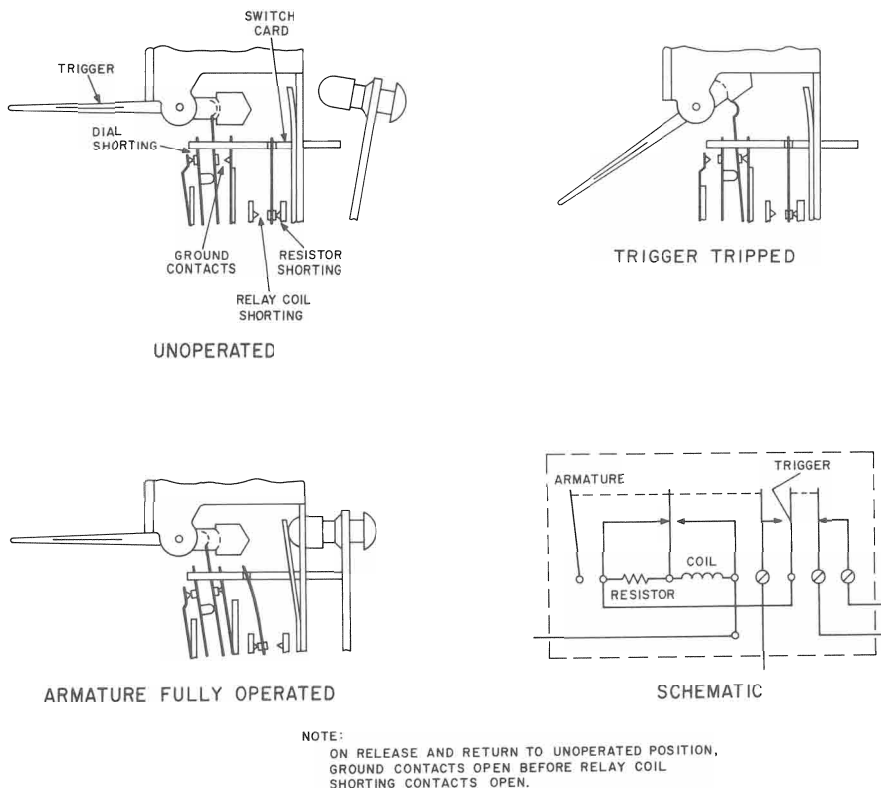

Fig. 39—Contact Spring Assembly
- (1) Verify presence of central office battery and station ground.
- (2) If contacts make firmly, but test open, burnish with 265C tool.
- (3) If dial tone is still not heard, replace relay.
6.75 Lubricate surface between trigger and contact spring with 2B or softer lead pencil (Fig. 39).